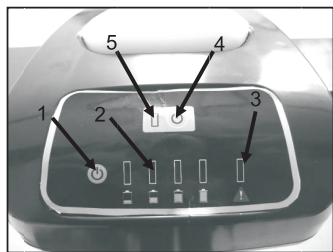

Fig.15
1. If the operator wants the mower to run faster, press the cutting speed control button(4), and the green LED(5) will flash. The cutting speed and the working efficiency of the machine will increase; if the operator wants to cancel this function, just press the cutting speed control button(4) again until, the LED(5) stops flashing.
2. If the operator comes across tall, thick-grass, press the cutting speed control button (4) to increase the speed of the blade.. If the operator wants to cancel this function, just press the cutting speed control button (4) again, until the LED (5) stops flashing (Fig.15)